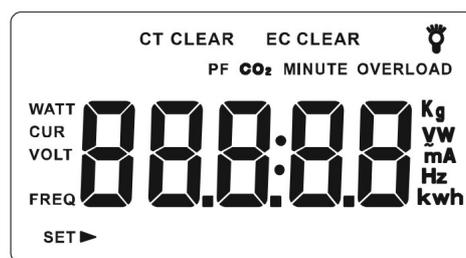

Figure 13
2. LCD display is as shown in **Figure 13**.